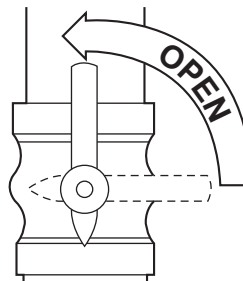

Fig. 15 – Open Valve
9. Open the external manual gas valve. See Fig. 15.